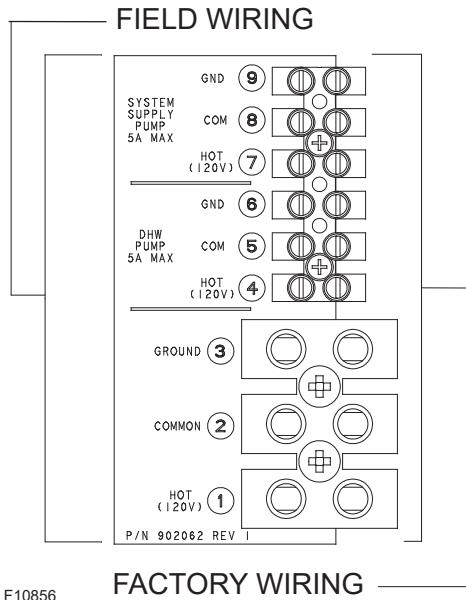
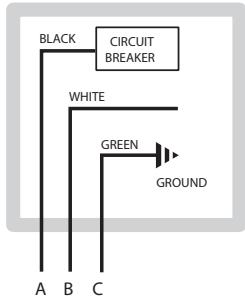
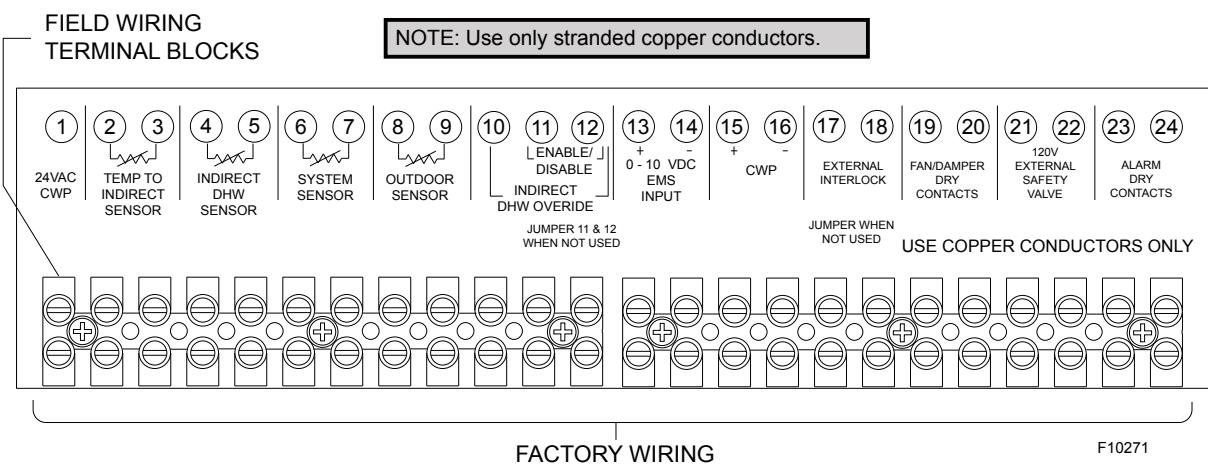

Figure 20. Wiring Electrical Connections
Figure 21. Wiring Connections
Figure 24. Low Voltage Field Wiring
All high voltage wiring connections to the MVB heater are made inside the rear wiring box as shown in **Figure 20**. Power for indirect DHW pump not exceeding 5 amps should be taken from terminals 4 (Hot), 5 (Com), and 6 (Gnd). Power for system pump not exceeding 5 amps should be taken from terminals 7 (Hot), 8 (Com), and 9 (Gnd). Power for boiler pumps must be routed through the pump contactor; 30A supply is required. Power for pumps must be a separate circuit wired through the pump contactor. Power to the MVB heater should be connected to terminals 1, 2, and 3 as noted in **Figure 20**. All low voltage wiring, including sensors, interlocks, enable/disable, and various options are wired into terminals 1–24 on the front wiring panel as noted in **Figure 24**.
WARNING: Using a multi-meter, check the following voltages at the circuit breaker panel prior to connecting any equipment. Make sure proper polarity is followed and house ground is proven. (See Figure 21)
Refer to Figure 20 and Figure 21.
Connect the Enable/Disable wiring to the field wiring terminal (shown in **Figure 24**). Alternately, any dry contact closure (including a remote thermostat) across these terminals will enable the MVB unit to run. Caution should be used to ensure neither of the terminals becomes connected to ground.
2. If using an Outdoor Sensor (option B-32), connect the sensor wires to the terminals marked OUTDOOR SENSOR (see **Figure 24**). Caution should be used to ensure neither of these terminals becomes connected to ground.
2. To enable this remote control function, set dip switch 5 to the UP position on the PIM. Dip switch 5 Toggles between an EMS (UP) signal or a demand signal from the VERSA (DOWN). Dip switch 2 on the PIM toggles between a Direct Drive (UP) input and a Target Temperature (DOWN) setpoint.
4. Connect an Energy Management system or other auxiliary control signal to the terminals marked 0-10V (+/-) on the field wiring terminals (see **Figure 24**). Caution should be used to ensure that the +0-10V connection does not create a short to ground.
3. Connect the system supply sensor to terminals 6 and 7 on the field wiring strip located on the Master PIM (See **Figure 24**).
4. Connect the Outdoor sensor (if used) to terminals 8 and 9 on the field wiring strip located on the Master boiler (See **Figure 24**).
5. Connect the Enable/Disable wiring to terminals 11 and 12 on the field wiring strip located on the Master boiler (See **Figure 24**). This connection must be provided through dry contacts closure.
An alarm annunciation or light may be connected to the alarm contacts on the field wiring terminals. The Alarm Contacts are 3A rated dry contacts on a normally-open relay that close during fault or lockout conditions, and the maximum voltage across the contacts is 30 VAC or 30 VDC. See the Field Wiring as shown in **Figure 24**.